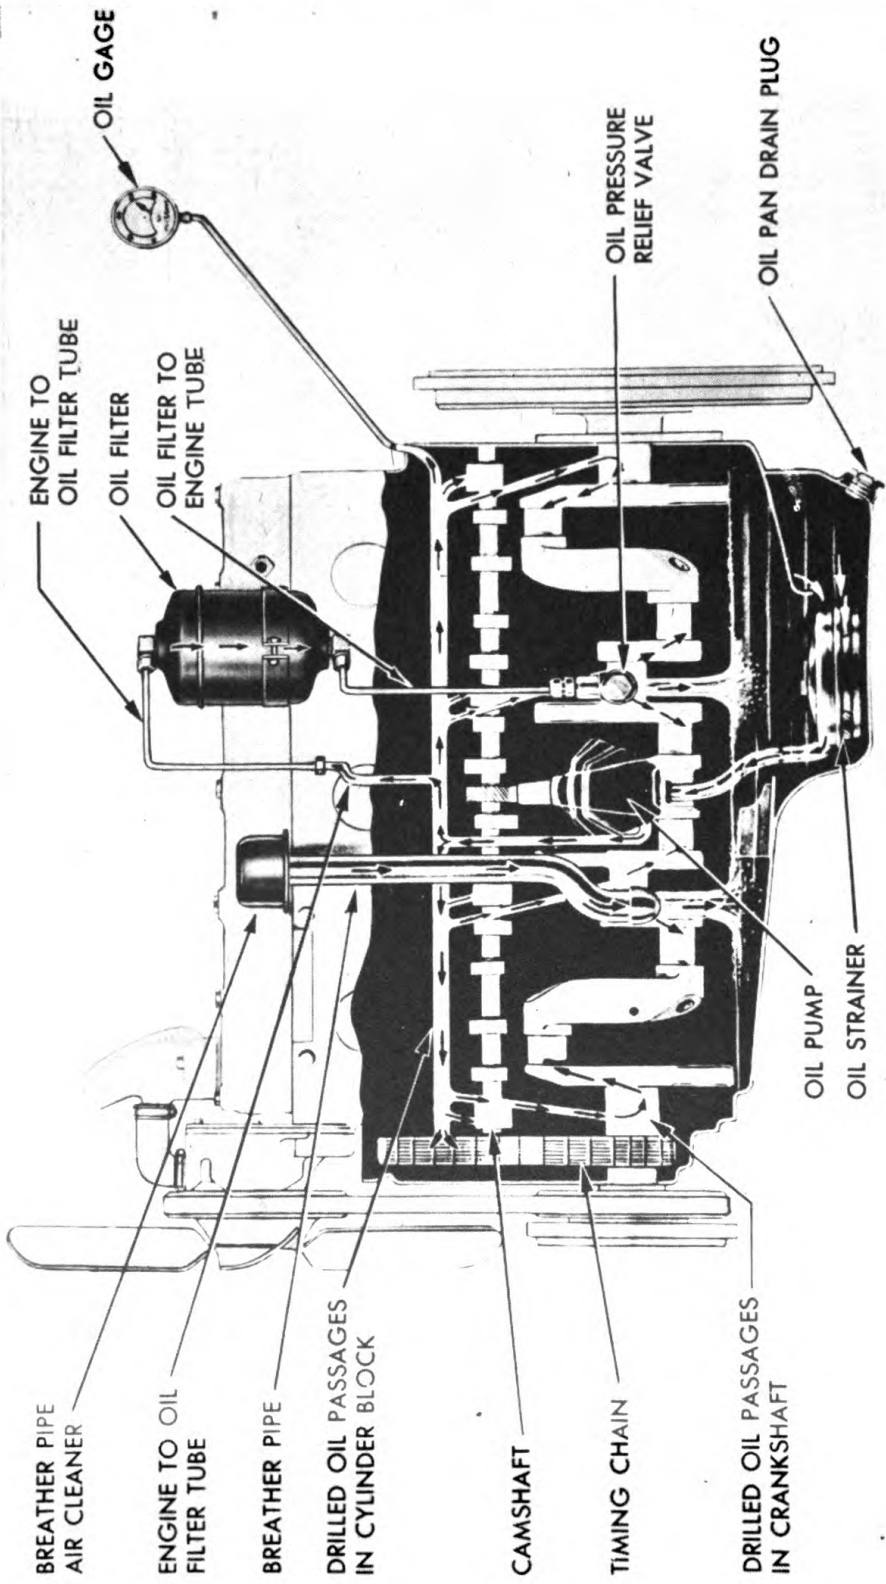

Figure 65—Oiling System
57. ENGINE OILING SYSTEM. (Figure 65.)